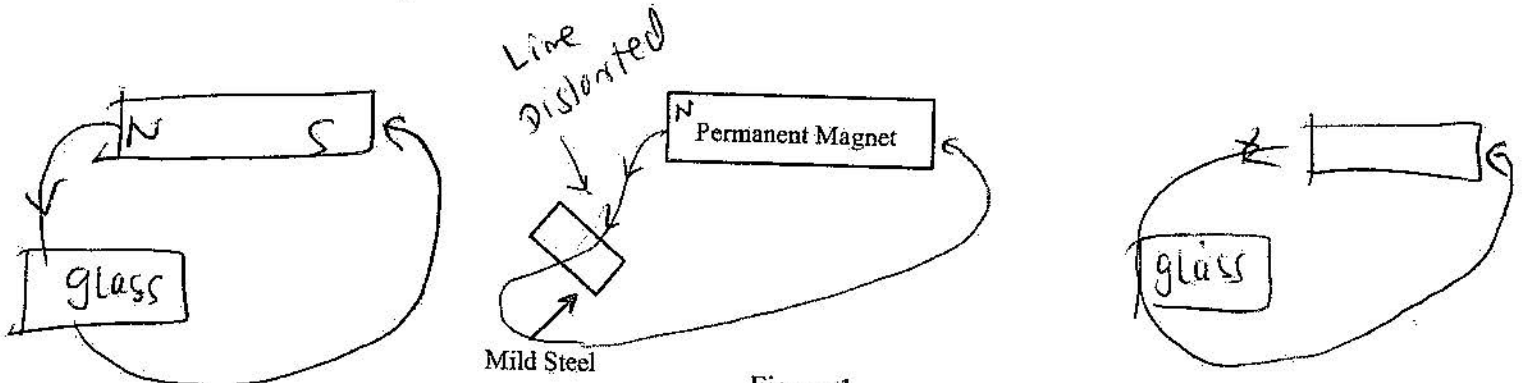

Figure 1
15. Reproduce the diagram of figure 1 on your answer sheet using drawing instruments to complete your drawing. Show the field pattern produced by the permanent magnet, and label all magnetic poles.
16. If the piece of mild steel shown in figure 1 was removed from the influence of the permanent magnet, would the mild steel become completely de-magnetised? State the reasoning for your answer.
17. Reproduce the diagram of figure 1 on your answer sheet using drawing instruments to complete your drawing, replacing the piece of mild steel with a piece of brass. Show the field pattern produced by the permanent magnet, and label all magnetic poles.